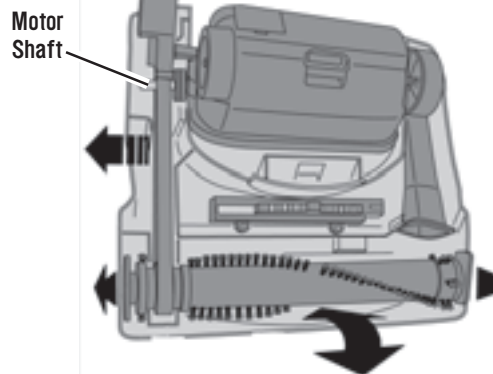

Figure 7c
4. Remove the Brushroll by pulling it straight up using both hands. (See Figure 7c.) Clean out the dirt and debris that may have accumulated at the ends of the Brushroll.